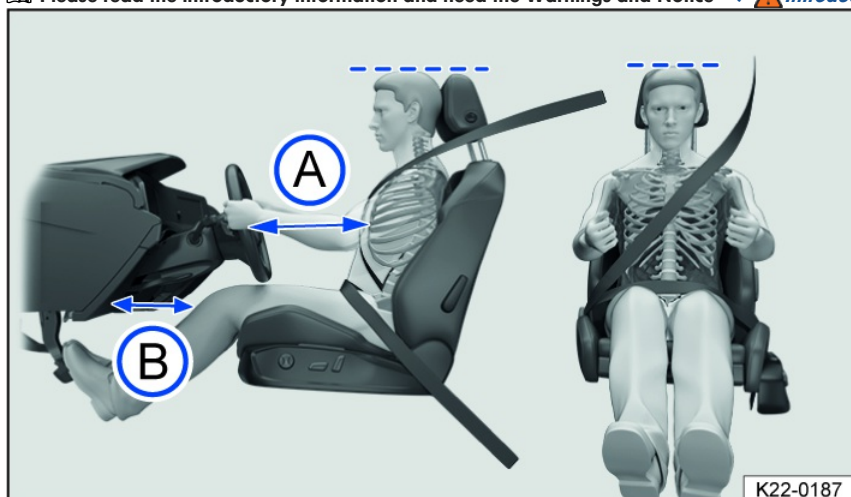

Fig. 25 General example: correct distance between the driver and the steering wheel, correct safety belt routing and correct head restraint adjustment.
- Adjust the head restraint so that the upper edge of the head restraint is in line with the upper portion of the head as much as possible, but not lower than eye level. Position the back of the head as close as possible to the head restraint fig. 25.
- Adjust the steering wheel so that the distance between the steering wheel and your chest is at least 25 cm (around 10 inches) fig. 25 and you can hold the steering wheel firmly at the sides with both hands and your elbows slightly bent.
- Adjust the forward/back position of the driver seat so that you can press the pedals while your legs are slightly bent and there is at least 10 cm (around 4 inches) of space between the instrument panel and your knees fig. 25.